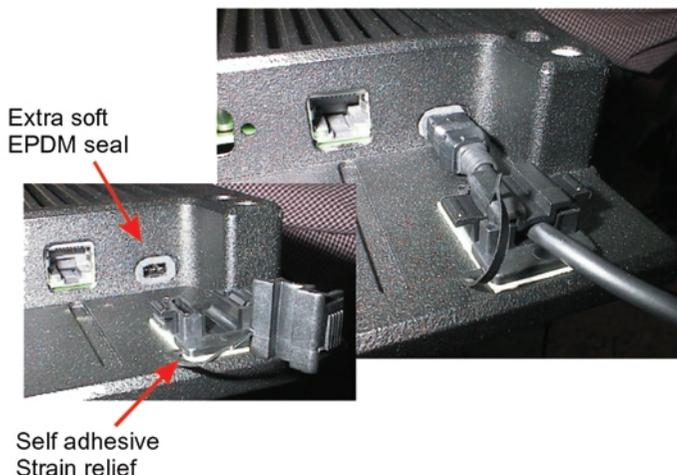

Figure 2.5 Cable Restraint
The three-pin power receptacle in the 8560 connects to a power cable (PN 31619). The power cable must be secured so that it is not inadvertently entangled in the mounting assembly during operation. Refer to Figure 2.5 below.
- Make certain that the cable is properly secured (see Figure 2.5 on page 20).